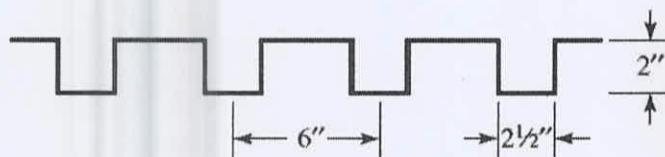

Fig. 2
4. A composite floor system uses a formed steel deck of the type shown in **Fig. 2**. The secondary beams supporting the floor are W21x93, and the slab has a total thickness of 5 inch from the top of the slab to the bottom of the deck. The effective slab width is 90 inch and the span length is 20 ft. The secondary beam is designed with two 0.75 inch diameter stud type of shear connectors per rib along the span of the beam (the deck rib is oriented perpendicular to the secondary beam). **(17.5)**